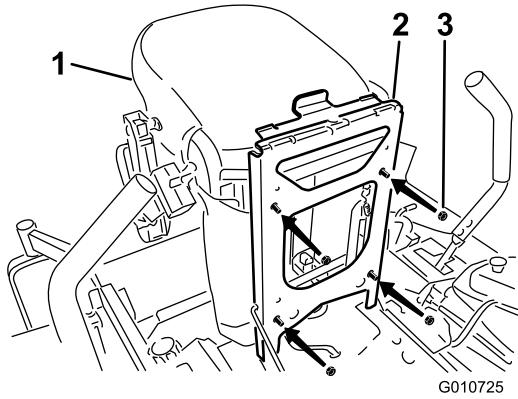

Figure 6
2. Position the new seat into the seat mounting frame (Figure 6).
3. Secure the seat to the seat frame with 4 flange nuts (5/16 inch) (Figure 6).